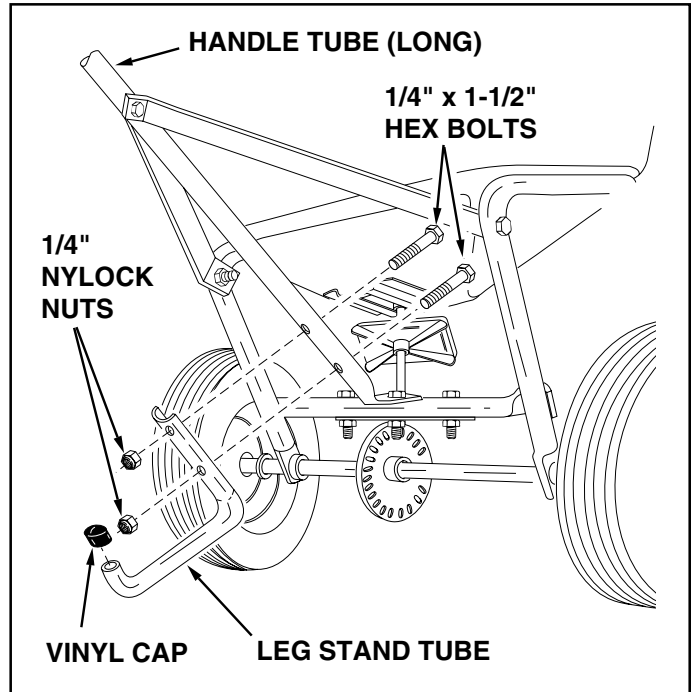

FIGURE 6
- Assemble the leg stand tube to the handle tube (long) using two 1/4" x 1-1/2" hex bolts. Secure tightly with two 1/4" nylock nuts. See figure 6.
- Place a vinyl cap over the end of the leg stand tube. See figure 6.